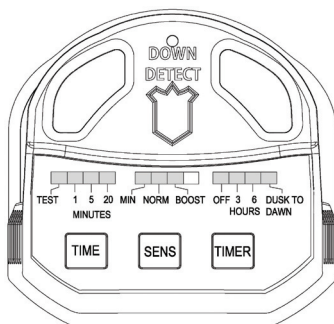

Figure 1
• Figure 1 shows all possible motion sensor function settings.